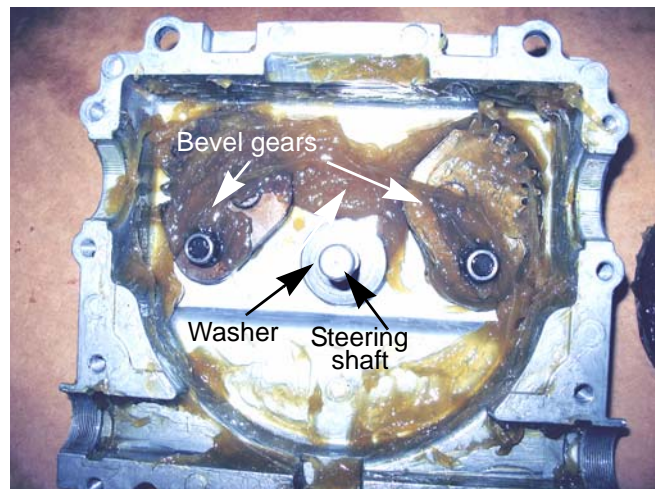

Figure 6.42
16. Remove both of the bevel gears and the washer on the steering shaft. See Figure 6.42.